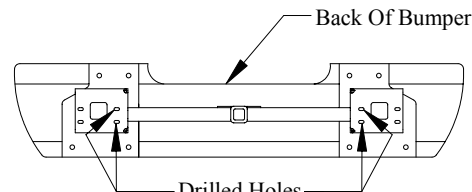
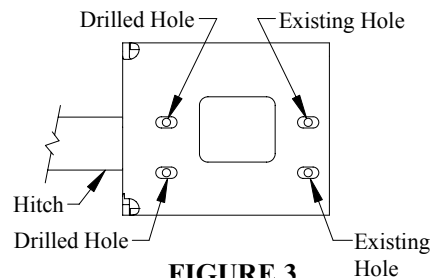

FIGURE 2
FIGURE 3
1. Remove six (6) bumper bolts, bumper and (2) shim plates if present.
3. Place bumper on protected surface to prevent scratching. Place receiver inside bumper. See Figure 2.
4. Loosen six (6) nuts to remove lower front cross member (if equipped).
5. Center receiver hole pattern side to side on bumper hole pattern. Mark location of drilled holes in bumper, in center of receiver slots. See Figure 3.
10. Reinstall bumper using four (4) fasteners removed in Step 1. Do not install shim plates.